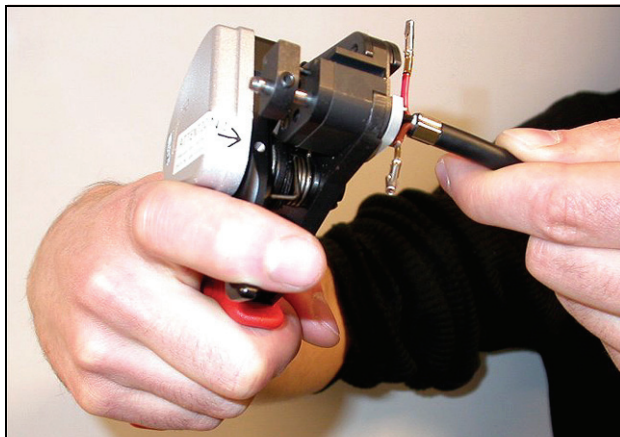

figure 30.18: Cutting a fiber (3)
- 14 Close the tool to fix the cable and pull the 'trigger' to cut the fiber (see figure 30.18).